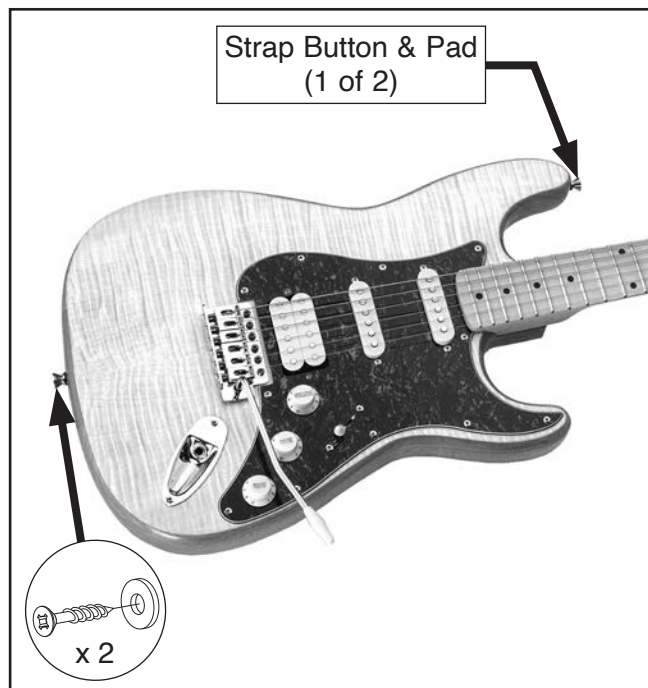

Figure 15. Strap button placement.
The strap buttons are positioned on the guitar as shown in **Figure 15**.
1. Use a $\frac{3}{32}$ " drill bit to drill $\frac{1}{2}$ " deep holes at locations shown in **Figure 15**.
2. Attach strap buttons to guitar body (see **Figure 15**) using (2) M3 x 20 wood screws and (2) 4 x 10 x 1.5 pads.